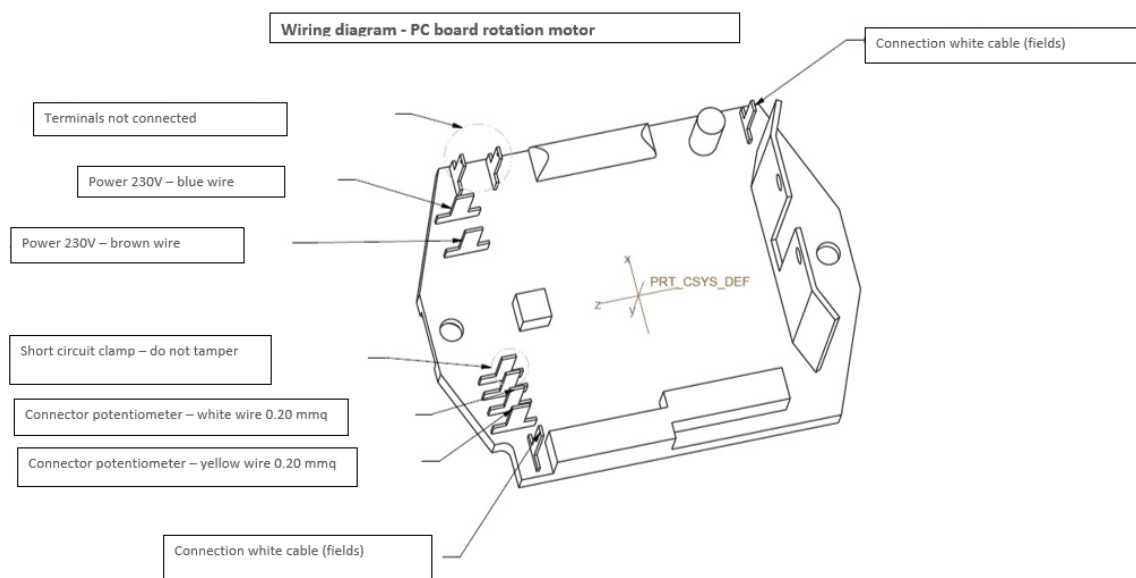

Figure 2.7
2.2.2 Proceed to disconnect the cables from the board, taking care, during reassembly, to restore the connections as shown in figure 2.7;